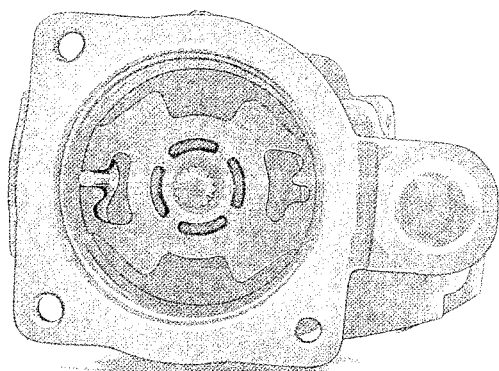

Fig. 6-99. Inner plate installed
2. Apply universal grease between the sealing ring (8) lips and press it in with drift 2997.
3. Place the O-ring (12) in position in the housing's inner groove.
4. If the bearing (6) was removed, press the shaft into the bearing. Fit the circlip (7) in its groove.
5. Install the shaft with bearing. Fit the circlip (5) in its groove.
6. Place the O-ring (13) in its groove on the plate (14). Fit the plate according to Fig. 6-99.